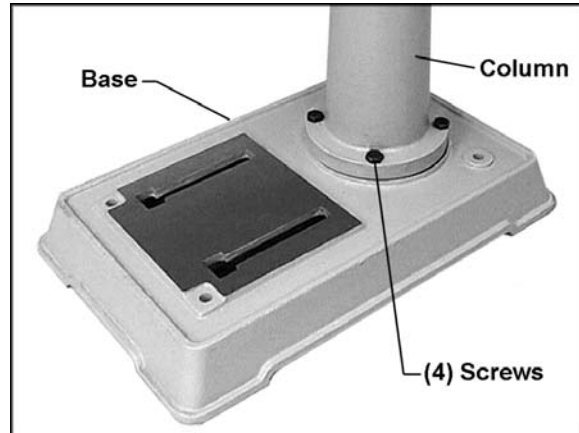

Figure 2
Referring to Figure 2:
1. Place the base (Figure 2) upon a level floor. It may be secured to the floor with lag screws (not provided) through the four holes in the base.